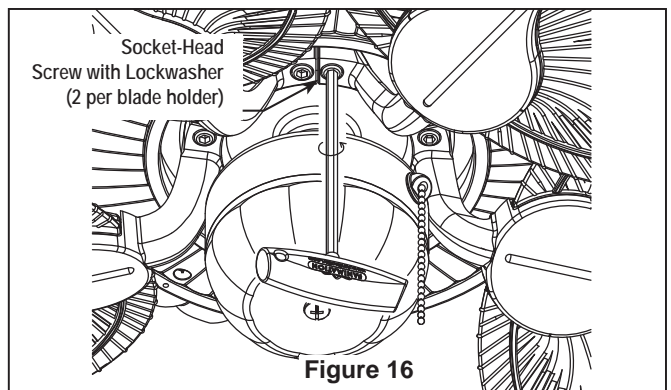

Figure 16
3. Attach blade holders to the bottom of the fan motor hub using the 1/4-20 x 5/8" socket head screws w/lockwashers. Make sure the screws with lockwashers securing the blade holders to the fan motor hub are tight and that the blade holders are properly seated. (Figure 16)